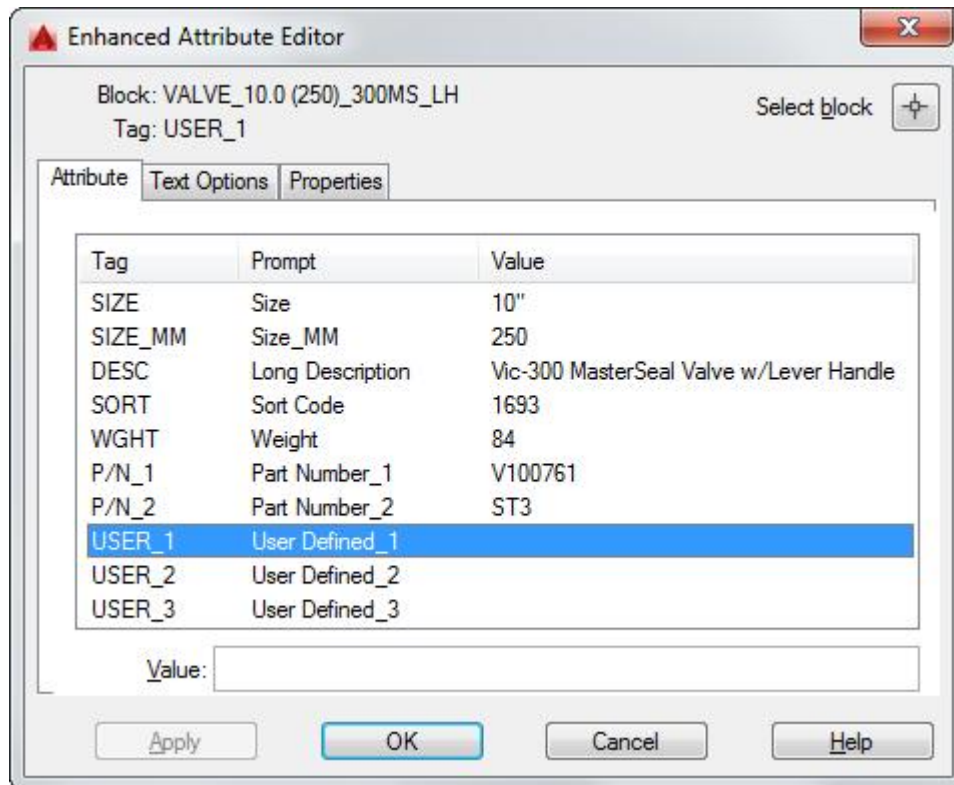

Fig. 7
Block data includes nominal imperial and metric sizes, component description, Victaulic sort code, weight and Victaulic part number. Also included are three (3) user definable attribute fields (see Fig. 7 on page 10).